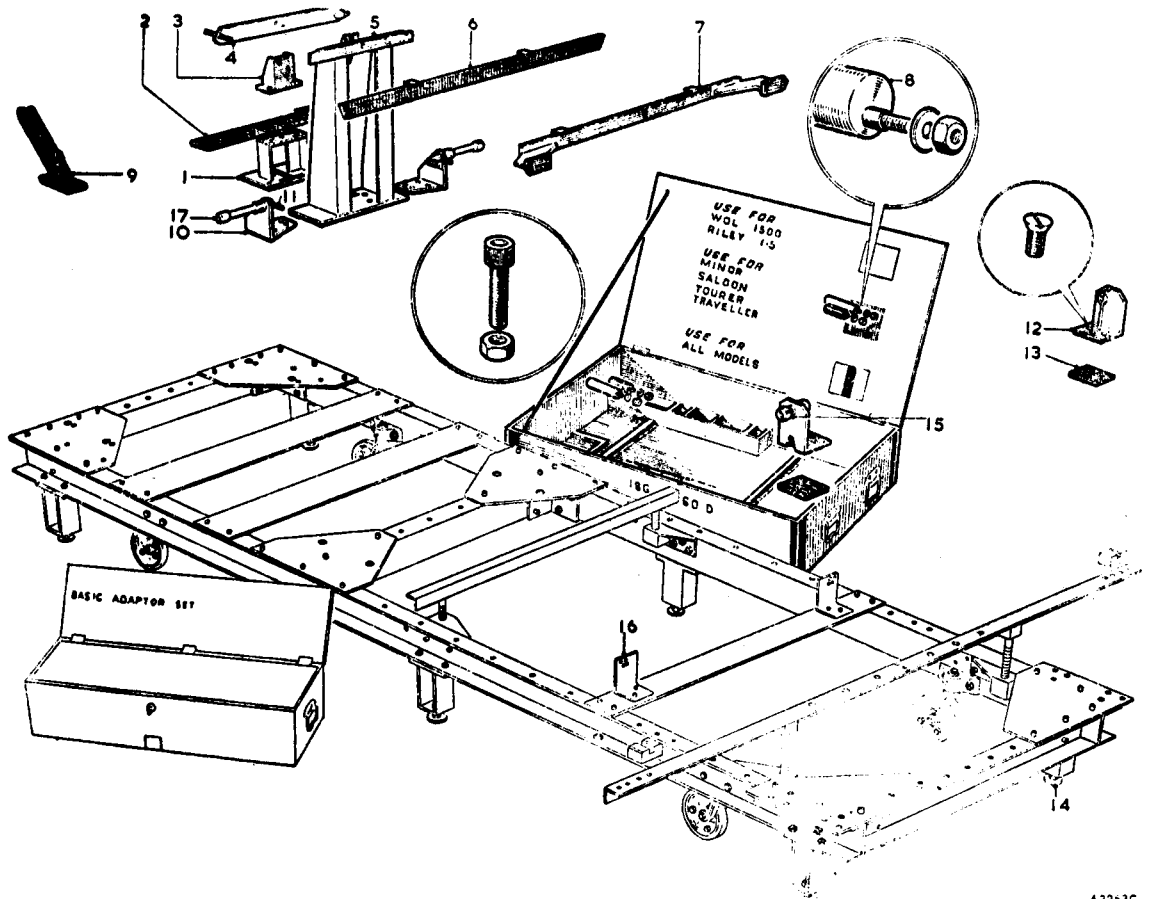

Fig. R.51
- (6) Remove the two rear body support pads (7) from the rear jacking bar for this model.
NOTE.—Item numbers quoted in instructions (7) to (10) refer to Fig. R.51.
- (7) From adaptor set 18G 560 D take the items painted green and yellow/green. Attach the support bracket (1) for the front engine mounting checking plate to the centre of plate 1.
Remove the front shackle checking bracket (12, Fig. R.51) from the jig, attach a rear road spring (unused, if possible) to the front shackle in the normal manner, and lift the rear end into position near to the rear shackle attachment bracket. If there is no excessive looseness in the front shackle, the rear eye of the spring and the rear shackle attachment bracket should be in line.